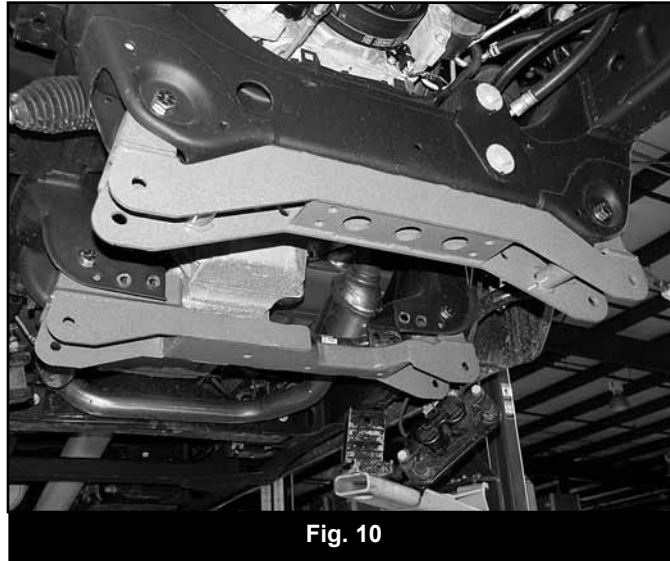

Fig. 10
18. Install the front crossmember (02176) in the control arm pockets with the OE lower control arm bolts, nuts and washers (Fig 10). Also fasten the center of the crossmember to the frame using the two original front skid plate mounting holes and bolts. Leave hardware loose.